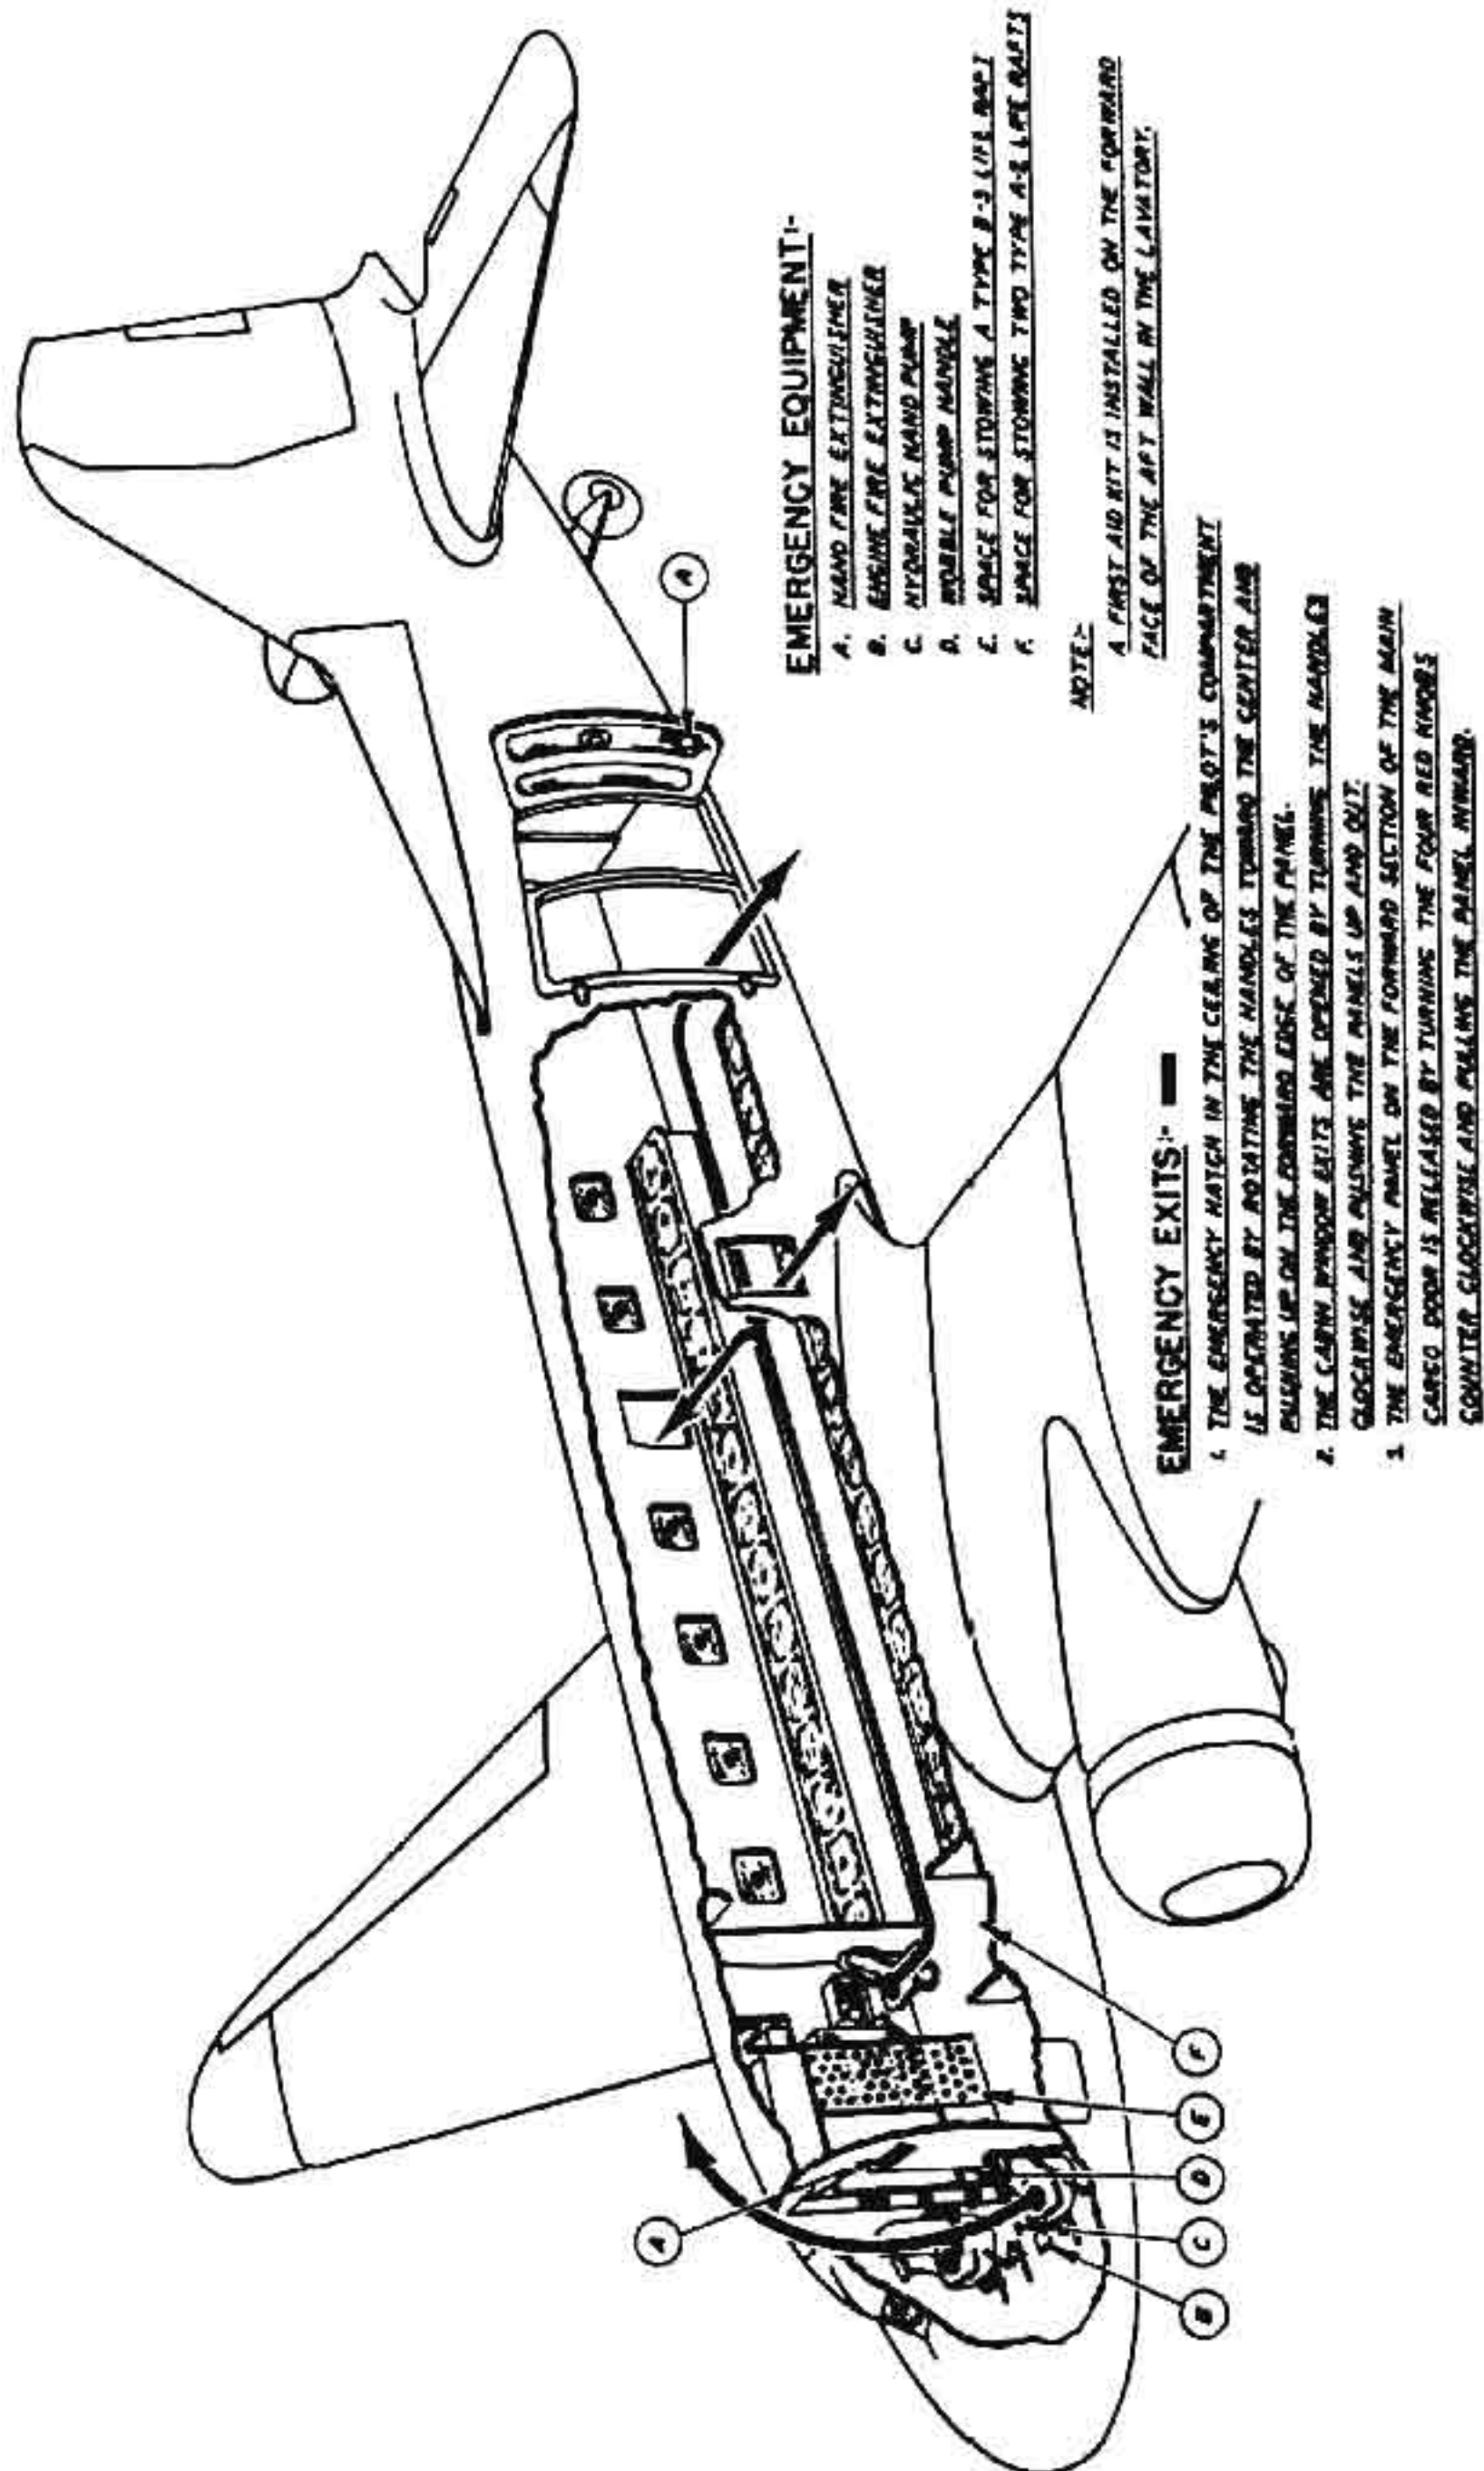

Figure 3 - Emergency Equipment and Exits
f. Emergency Equipment and Exits. - Refer to figure 3 for emergency equipment and routes of egress.